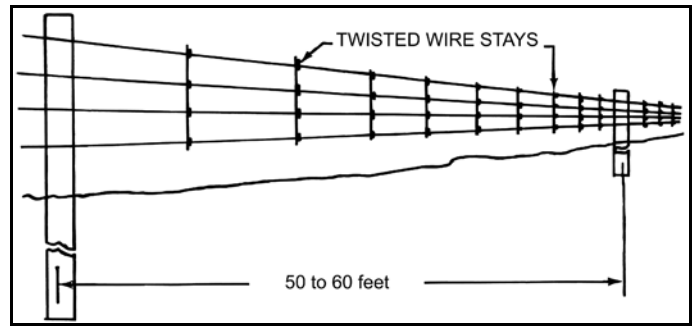

Figure 5. Typical barbed wire suspension fence.
**Suspension barbed wire fences** (Figure 5) consist of four to six strands of barbed wire. Each strand is stretched *taut* so there is no more than three inches sag between posts. The suspended barbed wires are held apart by twisted wire stays or short pieces of fiberglass posts spaced approximately 10 to 12 feet apart. Line posts are spaced from 50 to 60 feet apart. The suspen-